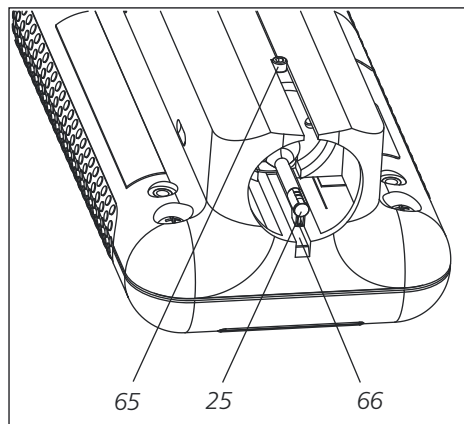

Fig. 14
- Push the drive unit forward out of the housing, turn it 180° to the right (stylus tip points upwards) and pull it back into the housing (guide pin engages with guide groove) until the rear lock-in position is reached. Then turn the drive unit over to its top side (see Fig. 14).